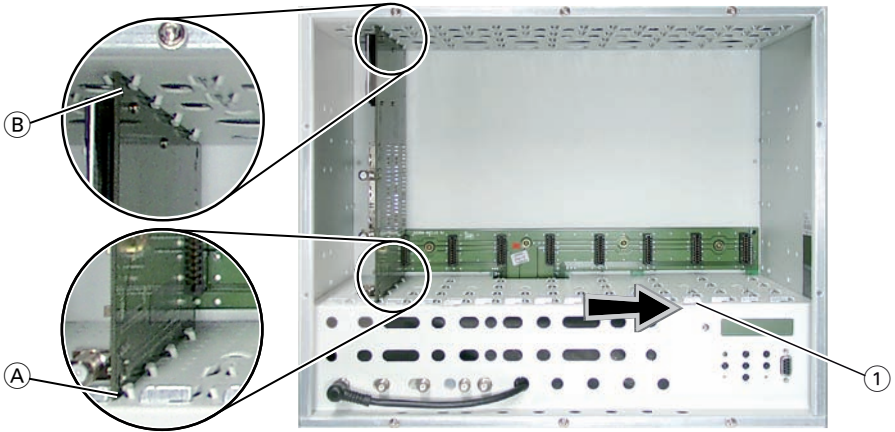

Fig. 3
- Insert the COFDM module in grooves (A) and (B) of an open slot (with contact strip on the board at the rear wall of the housing) and gently slide it into the head-end station until it makes contact with the board on the rear wall (fig. 3).
- After installing the COFDM module close the locking device ① in the direction of the arrow (fig. 3).